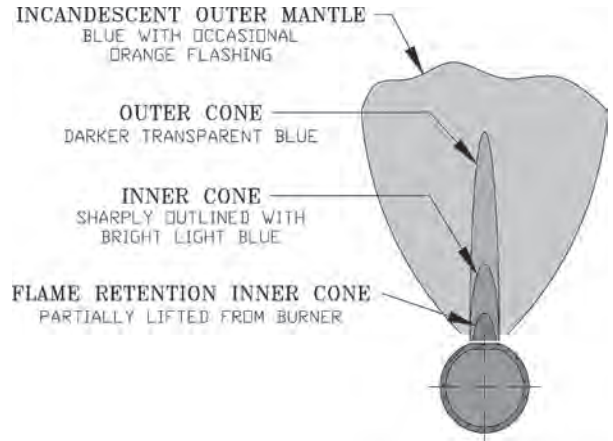

Figure 12: 1 Inch Main Burner Flame
- 6. Check main burner flames. See Figure 12 or 13. Flame should have clearly defined inner cones with no yellow tipping. Orange-yellow streaks caused by dust should not be confused with true yellow tipping. If yellow flames are observed, follow instructions TO TURN OFF GAS TO APPLIANCE (see Figure 4, 5, 6 or 7) and contact a qualified service agency.